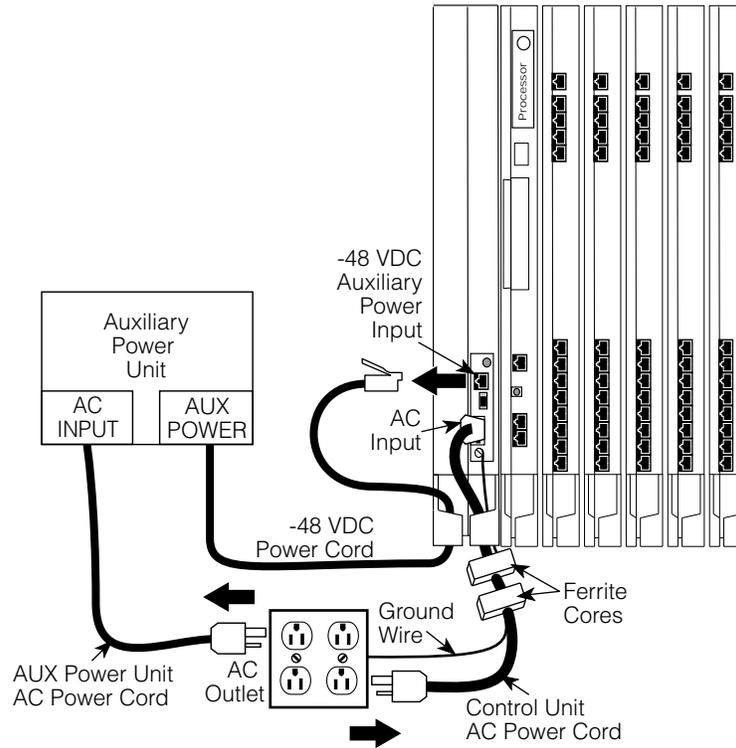

Figure 9–2. Powering Down the System
Remove the control unit housing as described below. See Figure 9–1.
1. Remove the front housing from each carrier by pulling the bottom-front towards you, and lifting it up as shown in Figure 9–1.
5 Replace the processor module. See Figure 9–3. Then go to Step 7.